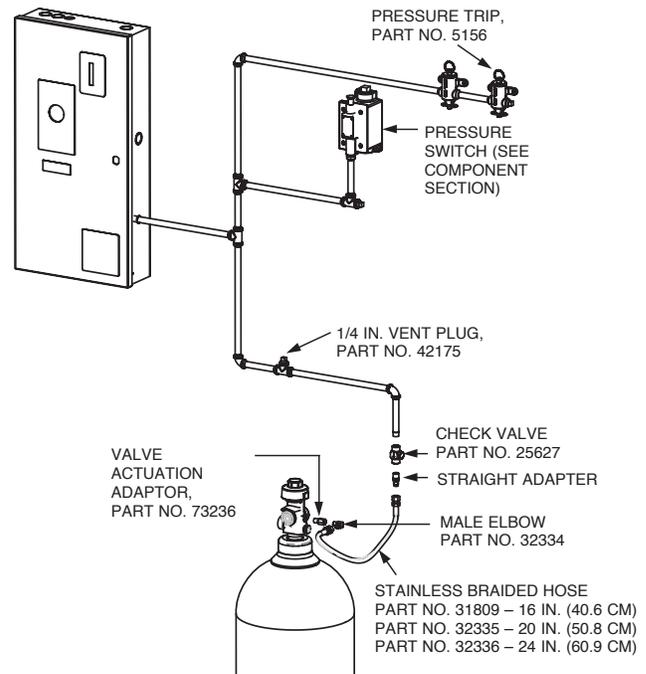

FIGURE 6-8
4. Install 1/4 in. tee in the actuation piping approximately 24 in. (61 cm) before first carbon dioxide container and install vent plug, Part No. 42175. See Figure 6-8.
5. Install actuation hose, Part No. 31809, 32335, or 32336 (depending on length required) between actuation piping and either the pneumatic actuator or the CO₂ valve. A 1/4 in. male adaptor, Part No. 32338, 31810, or 32334, is required on each end of the actuation hose. See Figure 6-8.